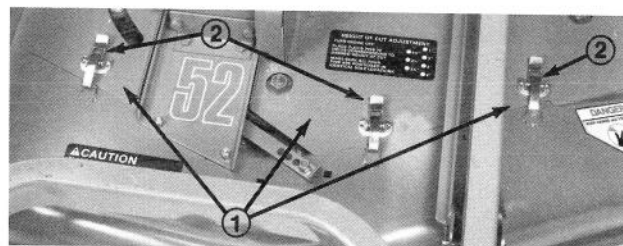

Figure 3
- Unhook latch to release center deck cover from housing, and remove cover to expose gear box pulley (Fig. 3).